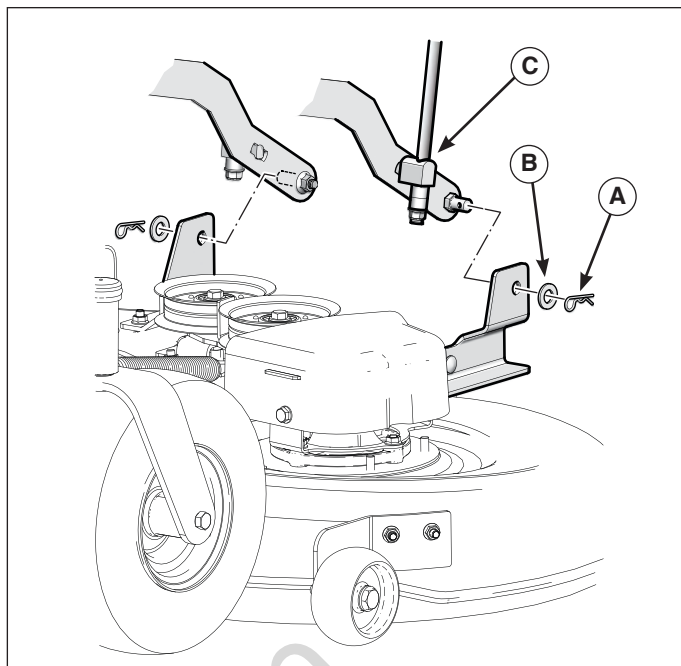

**Figure 18. Remove and Install Mower Belt**
3. Use the mower belt lever (A, Figure 18) to release belt tension. Remove the mower belt (B) from engine pulley (C).
7. Use the mower belt lever (A, Figure 18) to release belt tension, and install the mower belt (B) as shown.